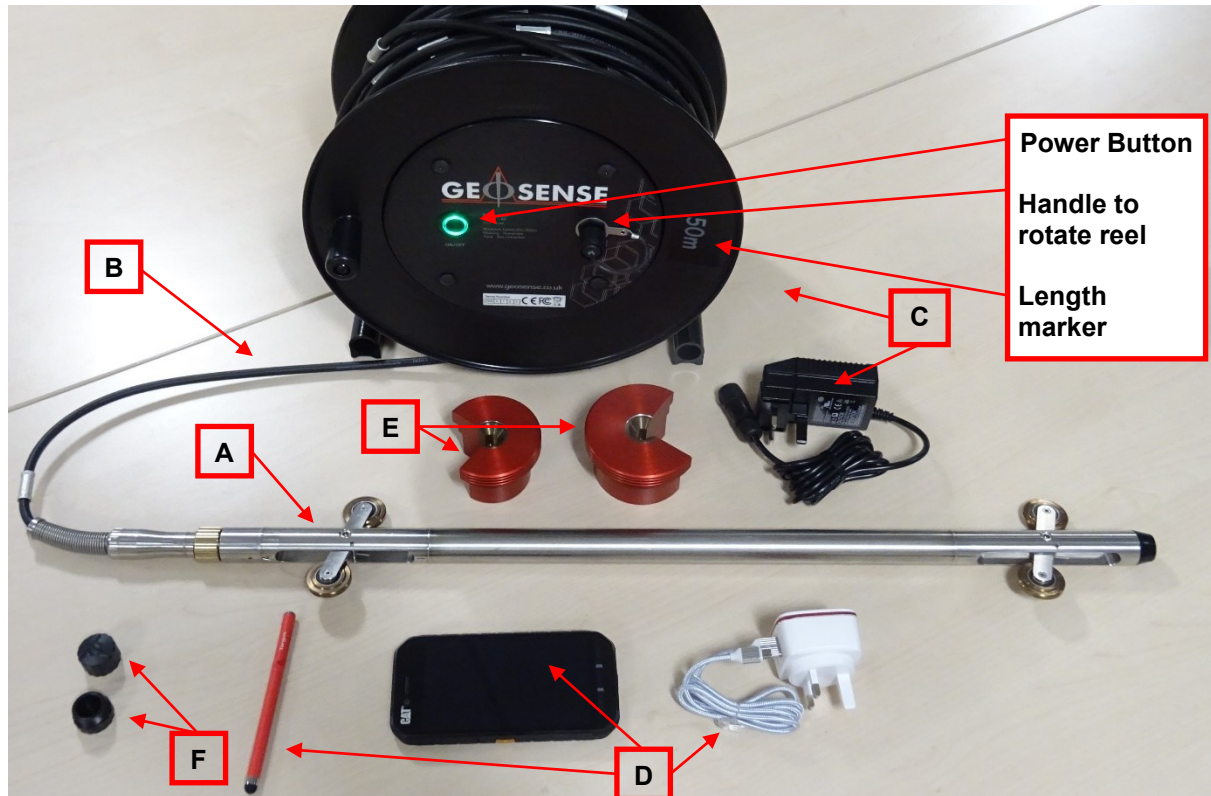

Figure 10: Inclinometer Components
Illustrated below (Figure 10: Inclinometer Components) are the components of the Geosense® Inclinometer and Readout System
- 5) Remove the probe from the hard case and remove the black cable connector cap (Item F - Figure 10: Inclinometer Components)